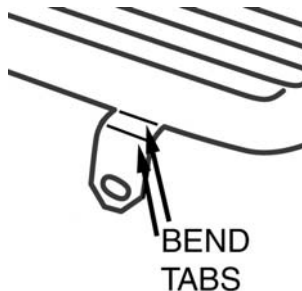
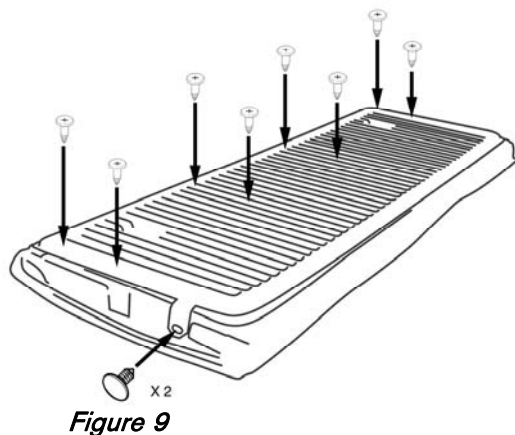

Figure 8
Figure 9
- 7) Remove the eight (8) tailgate screws holding the access cover to the center of the tailgate. **DO NOT REMOVE THE ACCESS COVER.**
- 8) Prior to installing the tailgate cover, bend the plastic tabs downward at the hinge lines. (See Figure 8). Place the tailgate cover on the tailgate and fasten the cover using the eight (8) shoulder screws as shown in Figure 9. The tightness range for the tailgate screws is 1.7 to 2.0 N-m (15 to 18 in-lb.).
- 9) Using a hammer, lightly tap the barbed plastic fasteners through the slots in the tailgate cover and into the holes in the holes as shown in Figure 9. These holes are located at the sides of the tailgate.